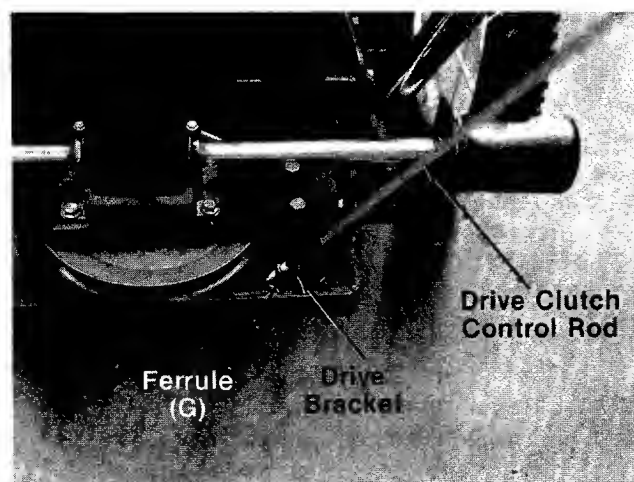

FIGURE 6.
2. Place ferrule (G) in position on drive bracket. See figure 6. Thread clutch control rod through ferrule until approximately $1\frac{3}{8}$ " of threads show below ferrule. See figure 6.